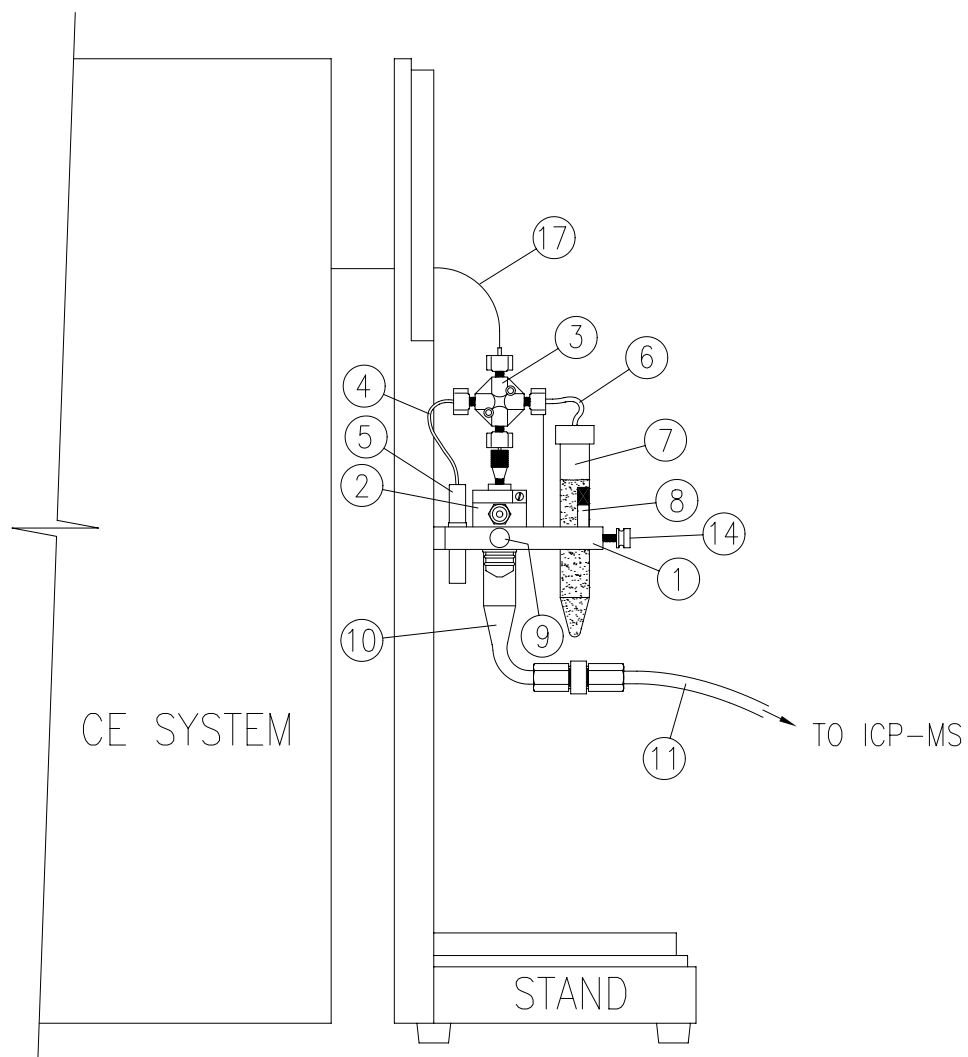

Figure 1. Side view.
Refer to the numbered items in Figures 1 and 2. Descriptive photographs are also included.
Place the CEI-100 interface box close to the CE system as it is shown in Figure 1. The CE capillary (17) should pass through the slit on the back of the CEI-100 interface stand so that the length of the CE capillary (17) outside the CEI-100 box is as short as possible.